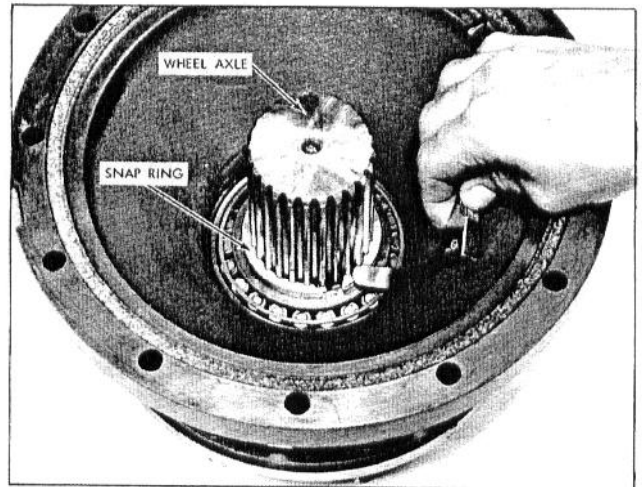

Fig. 35 - Measuring Gap Between Wheel Axle and Snap Ring
6. Install a split ring of the proper thickness in the wheel axle groove. Refer to Fig. 35. The ring may be selectively fitted, using the thickest that will fit the groove, or determined as follows, using the original snap ring:
- ring and the wheel axle groove with a feeler gauge as shown in Fig. 35.